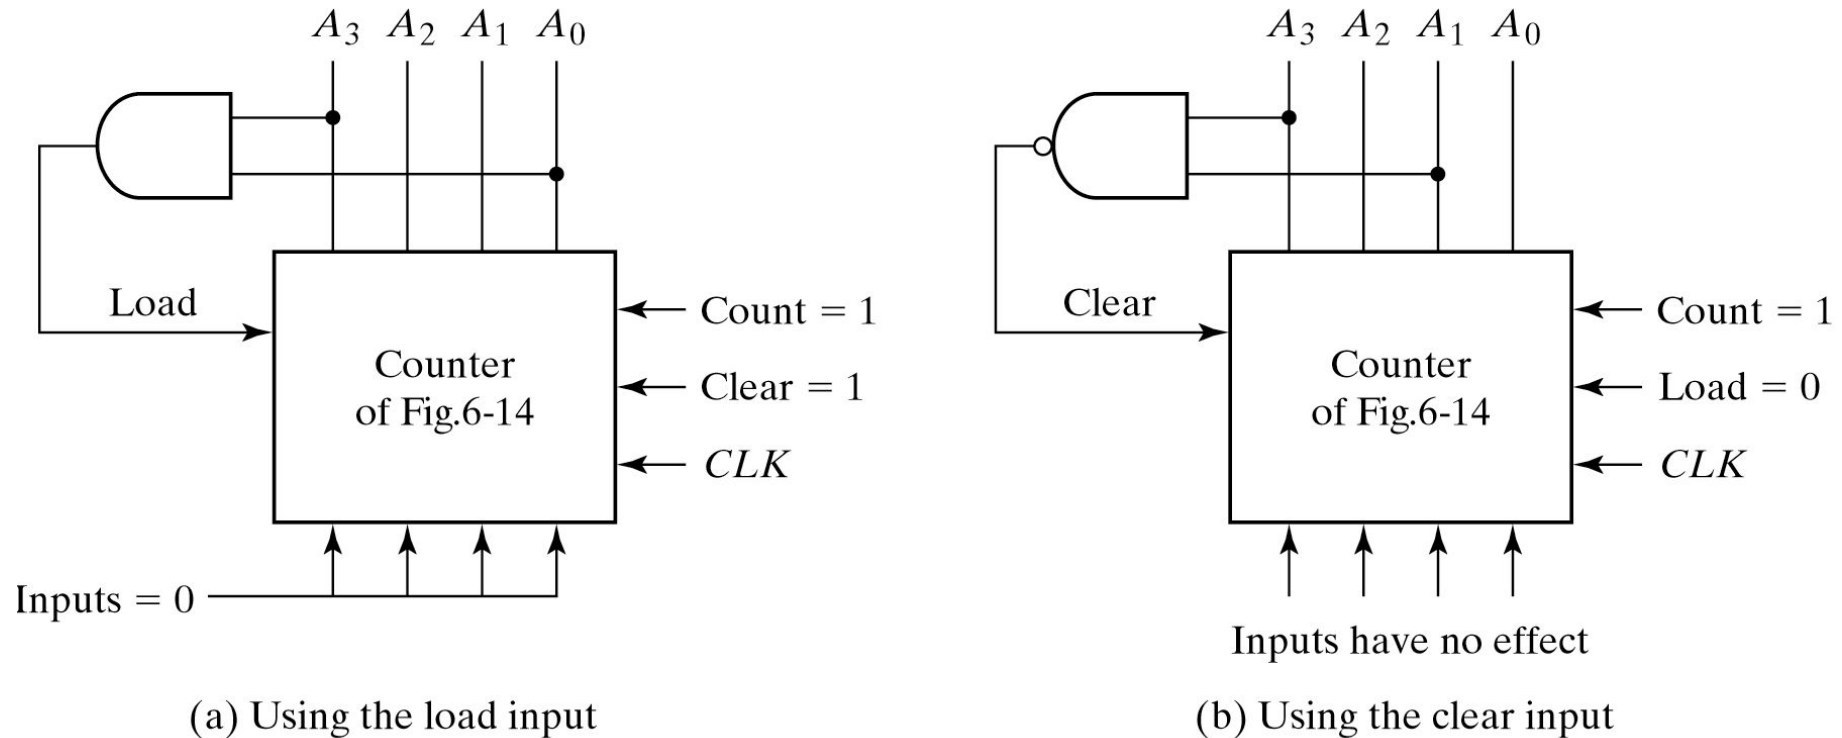

Fig. 6-15 Two ways to Achieve a BCD Counter Using a Counter with Parallel Load
- [Fig.6-15] shows two ways in which a counter with parallel load is used to generate the BCD count.